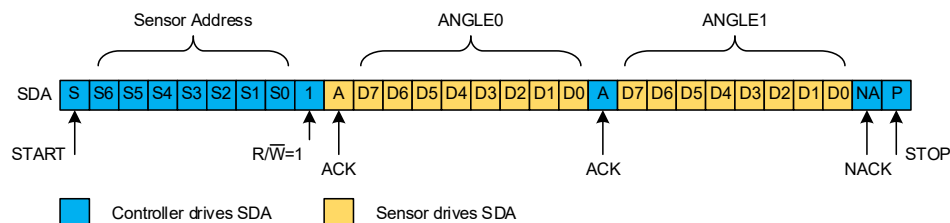

Figure 35: 16-bit angle I²C Quick Read
- As for the I²C Read case, the controller determines how many register values are sent by the sensor. Figure 35 shows an I²C Quick Read operation to read the full 16-bit angle.